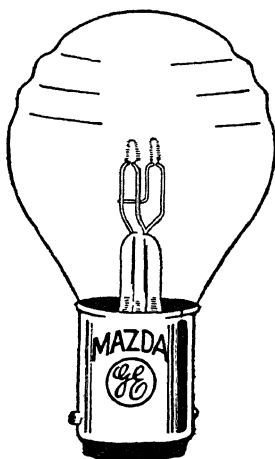

Fig. 1. Double-filament
**Bulbs.** The bulb may be of either the single contact or double contact type. By this is meant that in the case of the double contact the bulb is not grounded but two wires are run from the battery to the switch and then to the bulb for supplying current. The double contact system of wiring is seldom used, most bulbs being provided with the single contact, as shown in Fig. 1. This bulb, which is of the single contact bayonet type construction, has a double filament. This means that there are two contacts on the bulb. The two contacts on the bulb base are single contacts, however, inasmuch as each one of them is connected with one of the filaments, and the return from that particular filament is through the ground on the lamp base shell to the car ground. Thus, there are two separate
case of a lamp subject to the vibrations of an automobile. The candle power delivered by a bulb is directly dependent upon the voltage and amperage consumed. The two-candle-power bulb consumes .43 amperes at 6 volts. The four-candle-power bulb consumes .85 amperes at 6 volts. A bulb similar to the one shown in Fig. 1 has two filaments in it—one of 32 candle power and the other of 21 candle power. These bulbs will draw 3.9 and 2.8 amperes, respectively.